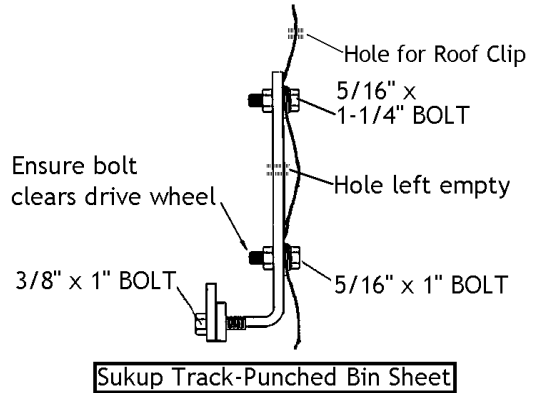

Fig. 4 – Side view of track mounted on Sukup bin sheet punched for track
- A4 Place 5/16" nuts onto bolts through track bracket. Do **not** tighten at this time. See Fig. 4.
C2.1 When drilling 4.0" Cor. sidewall sheets, use top and bottom track bracket holes as guide as shown in Fig. 4.